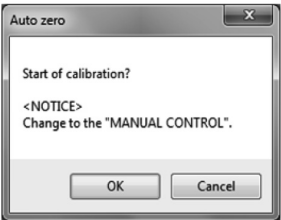

Fig.141
- ③ Click the "OK" button to display a message box (Fig. 141).
- ⑥ Click the "OK" button to return to the window shown in Fig. 141, then click the "Cancel" button to exit "Autozero".